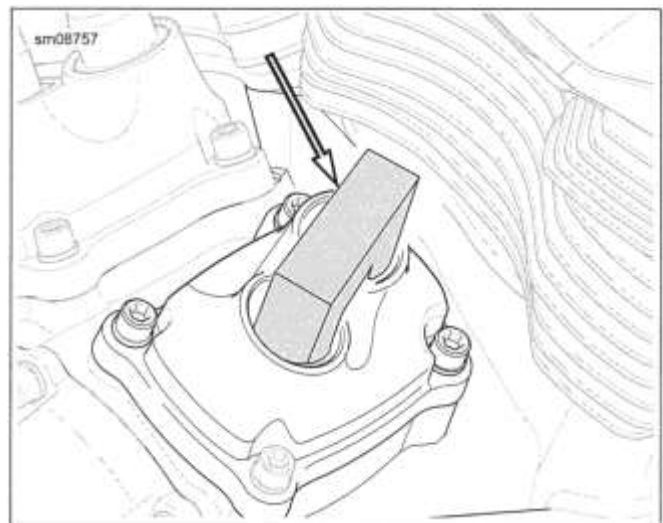

Figure 4-52. SCREAMIN' EAGLE Magnetic Lifter Holder
- a. See Figure 4-52. Support lifters.